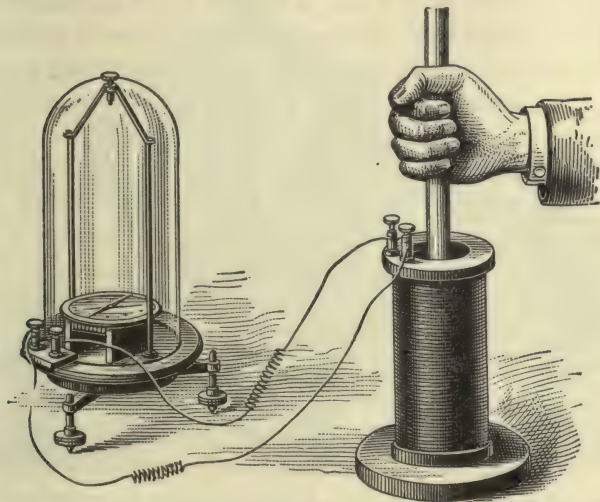

FIG. 106. — The motion of a magnet within a coil of wire produces a current of electricity.
Attach a closely wound coil to a current detector or galvanometer (Fig. 106); naturally there is no deflection of the galvanometer needle, because there is no current in the wire. Now
**The telephone.** — When a magnet is at rest within a closed coil of wire (Fig. 106), current does not flow through the wire. But if a piece of iron is brought near the magnet, current is induced and flows through the wire; if the iron is withdrawn, current is again induced in the wire but flows in the opposite